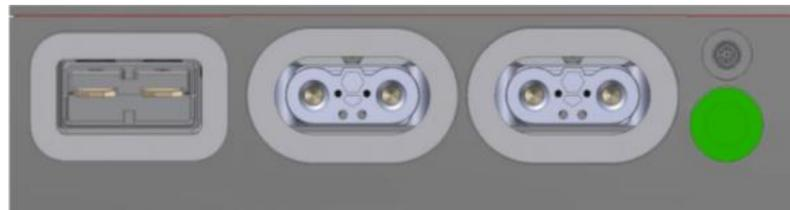

Figure 21: Circular LED is illuminated, battery is ON but not ready for use.
2. After turning on the battery, the circular LED will illuminate. Wait at least 30 seconds for the battery to complete the bootup sequence (Figure 21).
- b. If the circular LED illuminate, wait at least 30 seconds for the battery to complete the bootup sequence (Figure 21)
3. If the discharge port is not illuminated after the bootup sequence (Figure 21), restart the battery 2 more times or proceed to Section 5.3.